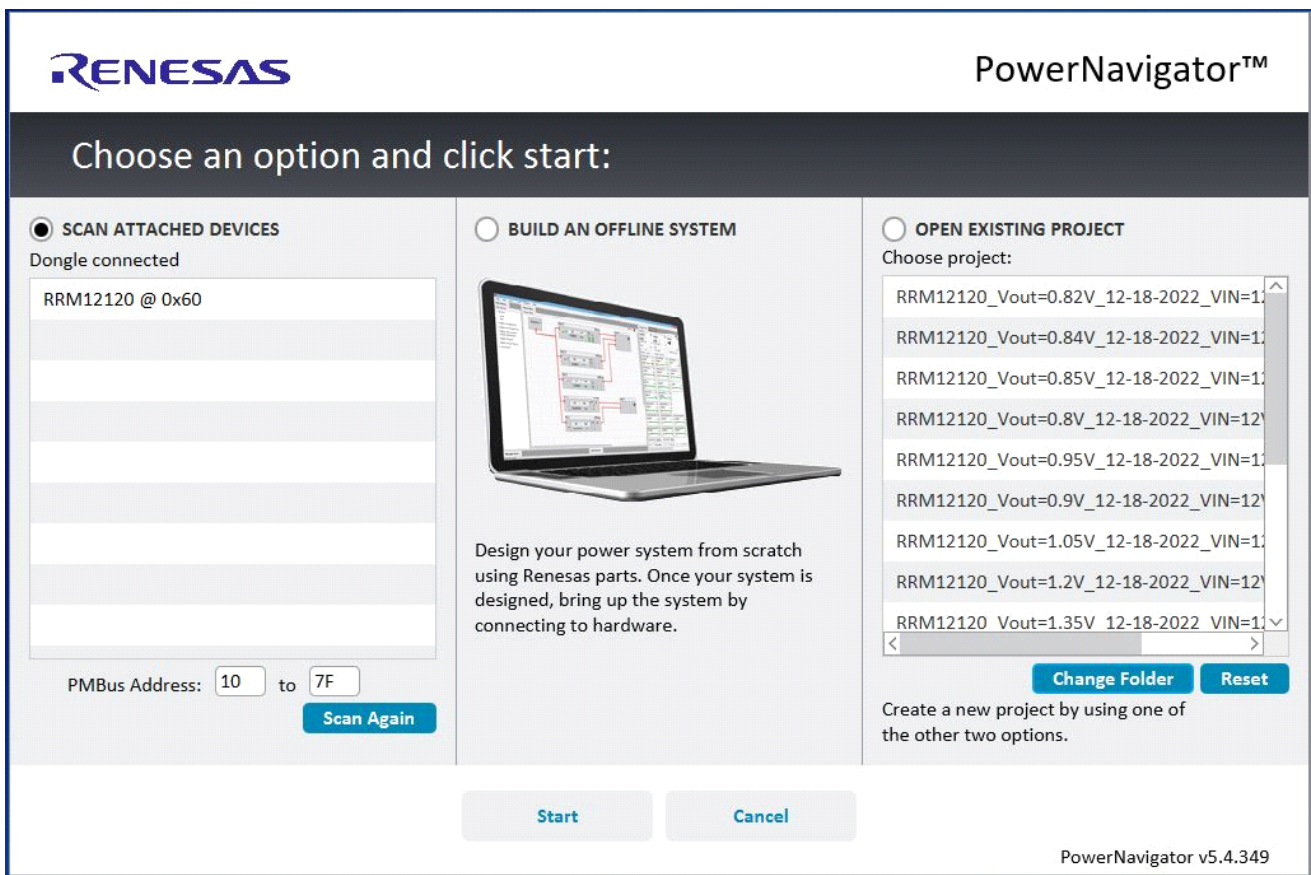

Figure 2. PowerNavigator Start Page
8. Launch the PowerNavigator software. The PowerNavigator software interface is shown in Figure 2. The module RRM12120 part number and I²C address (0X60) appears under Scan Attached Devices section.